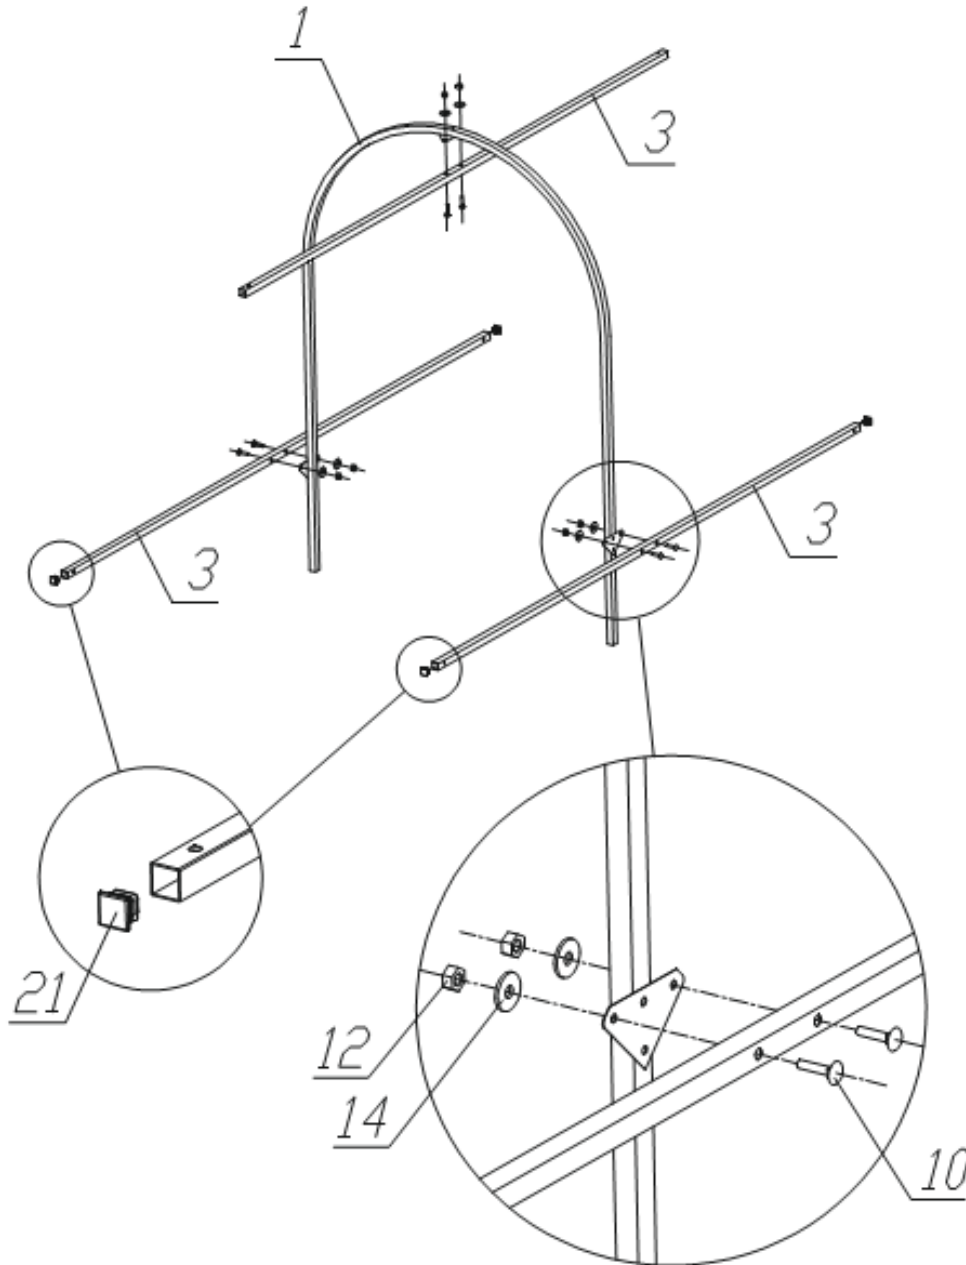

Fig. 2
3.1 Take the medium arc (Position 1) and connect it to the jumpers (Position 3). The jumper that is located at the center upper point is screwed from the inside of the arc (the bolts are inserted from the jumper side). Similarly, the jumpers that are located on two sides are screwed from the outside of the arc (Figure 2).